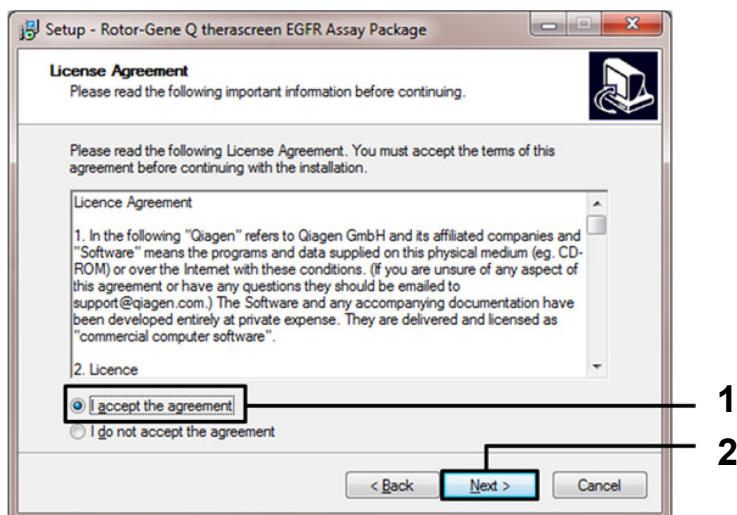

Figure 42. The "License Agreement" dialog box (1 = "I accept the agreement"; 2 = "Next" button).
5. Read the License Agreement in the dialog box and accept the agreement by checking the statement "I accept the agreement." Click "Next" to continue (Figure 42).